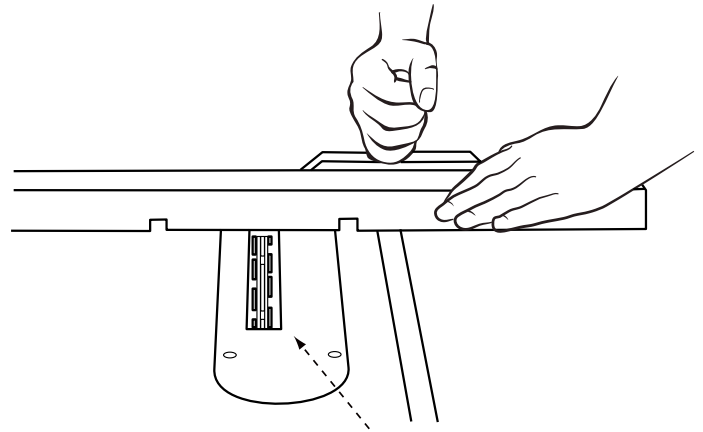

FIGURE 30
- The accessory dado head set throat plate, shown in Figure 30, must be used in place of the standard throat plate. Be sure the throat plate is level to the table before you proceed.